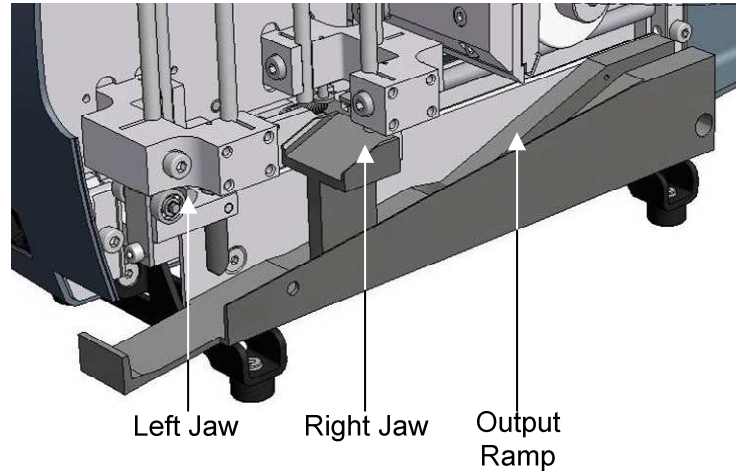

Figure 64 -- Maintenance spots
5. To move to the left, press the black plastic part in (**Figure 64**) to the left.